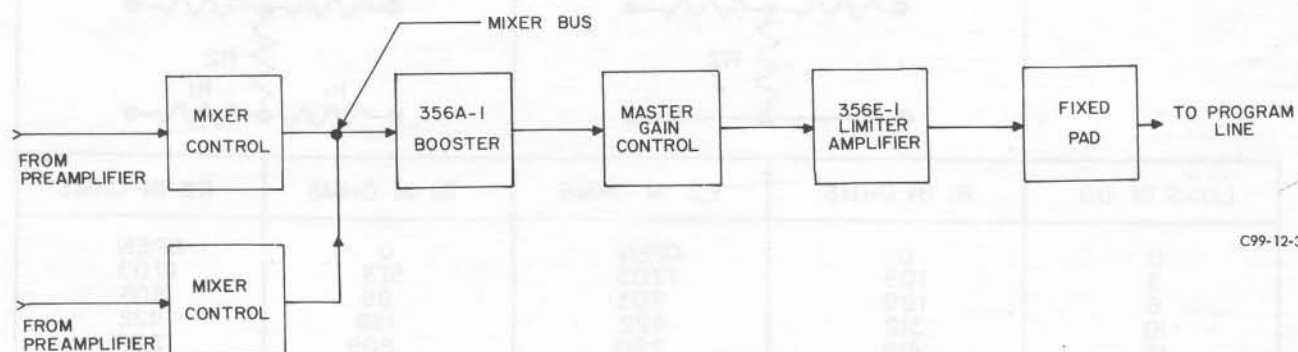

Figure 4. Collins Type 356E-1 Limiter Amplifier as Automatic Mixer, Suggested Arrangement
2.1.4 THE 356E-1 USED AS AUTOMATIC MIXER. Figure 4 shows a suggested arrangement for using the 356E-1 as an automatic mixer. When two signals are present at the mixer bus, the amplifier acts as a master gain control, expander-compressor, or as a straight program amplifier.